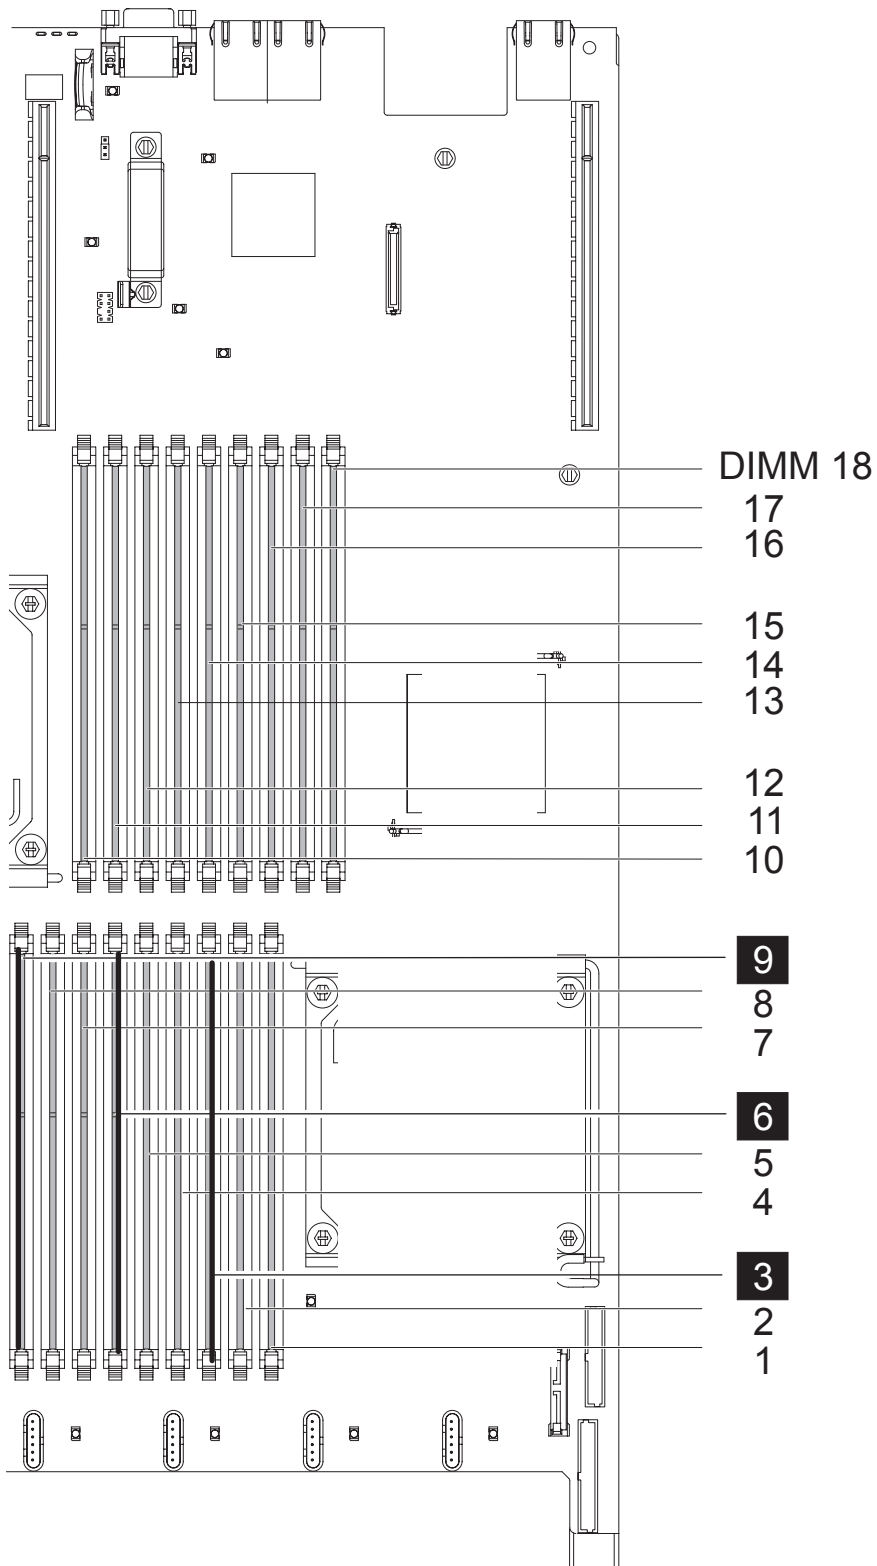

Figure 90. Locating the SAN Volume Controller 2145-CG8 memory modules
- SAN Volume Controller 2145-CG8: The SAN Volume Controller 2145-CG8 node uses three modules in DIMM slots **3**, **6**, and **9**, as shown in Figure 90.